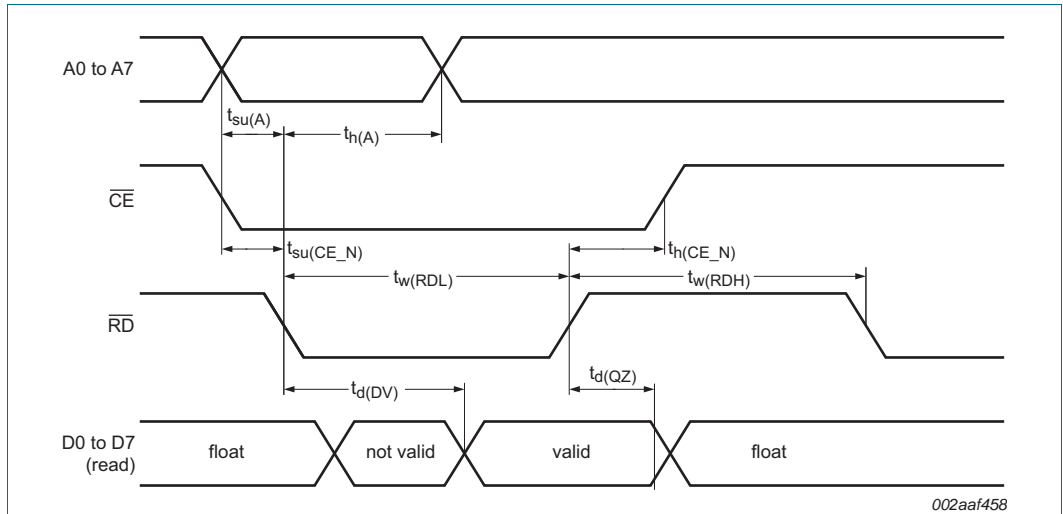
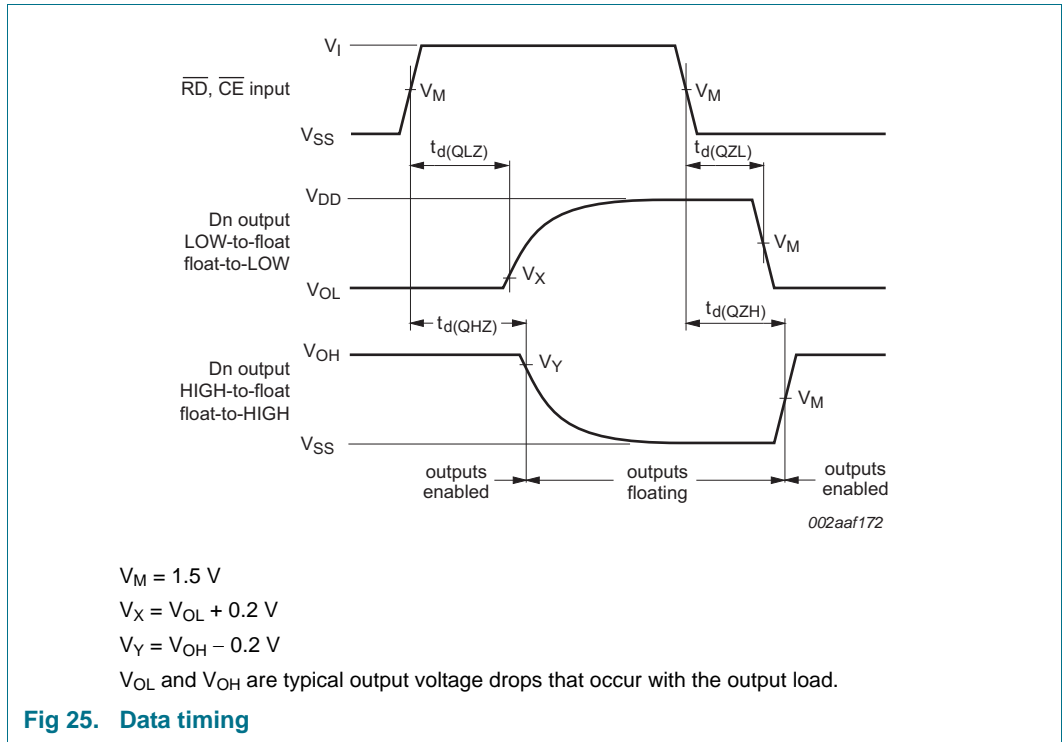

Fig 23. Bus timing (read cycle)
Fig 25. Data timing
Bus timing (see Figure 23 and Figure 25)
- [2] All voltage measurements are referenced to ground (V_{SS}). For testing, all inputs swing between 0 V and 3.0 V with a transition time of 5 ns maximum. All time measurements are referenced at input voltages of 1.5 V and output voltages shown in Figure 23 and Figure 25.